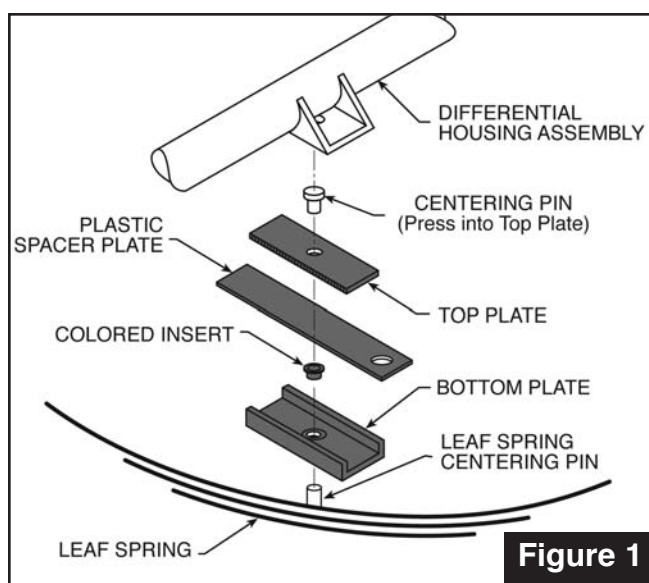

Figure 1
■ For those vehicles where the leaf spring is below the differential housing assembly, refer to **Figure 1**.